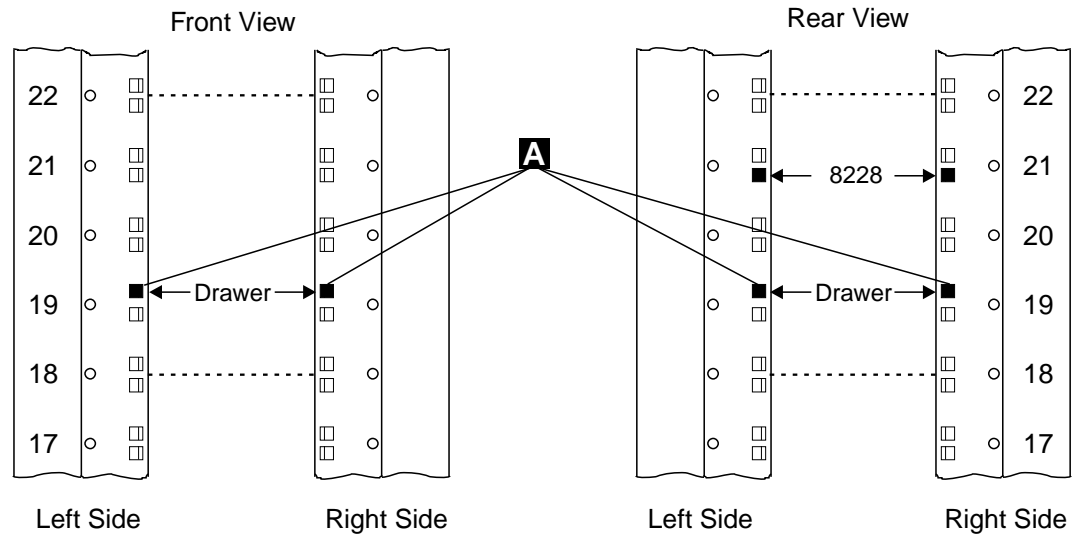

Figure 1-55. Installing Captive Nuts for the Service Drawer
7. ____ Refer to Figure 1-55, and if needed install four captive nuts **A** (PN 58G5766) on the front and on the rear side of the controller expansion.